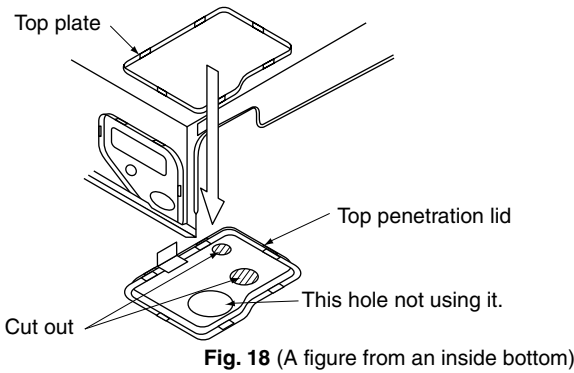

Fig. 18 (A figure from an inside bottom)
- Removing the top penetration lid and use the L-shaped branch pipe kit sold separately to set the pipe. (Refer to Fig. 18, 19)
- When piping is complete, cut the removed penetration lid into the shape of the pipe using scissors and attach. As when before removing the top penetration lid, secure the lead lines for the swing motor and thermistor by passing them through the clamp section on the top penetration lid. (Refer to Fig. 18, 20)